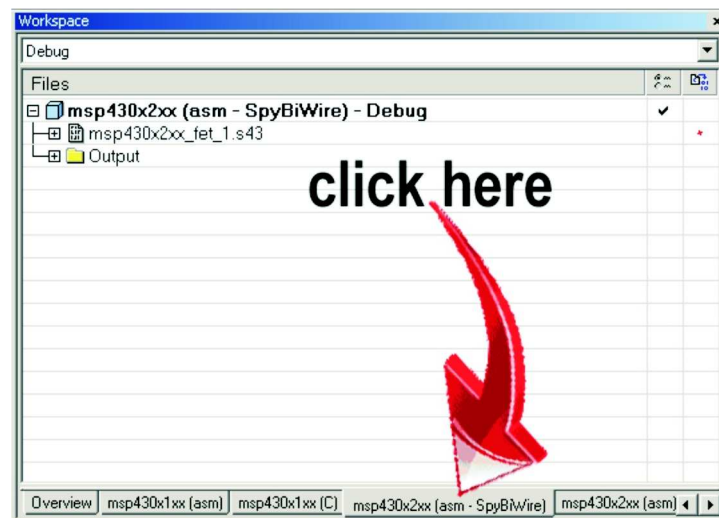

Figure 1-1. Activate Project
3. Click on the tab at the bottom of the workspace window that corresponds to the MSP430 device (MSP430xxxx) and desired language (assembler or C) to set a project active (see Figure 1-1).